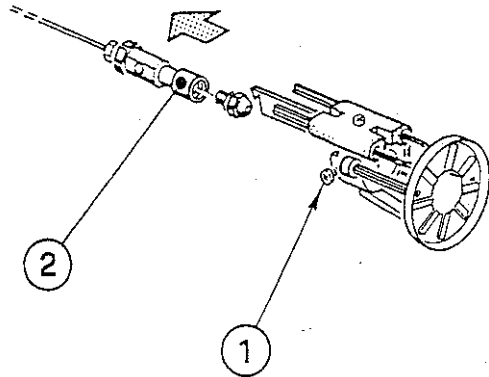

Figure 24: Nozzle Replacement
3. **Nozzle Replacement**, Refer to Figure 24